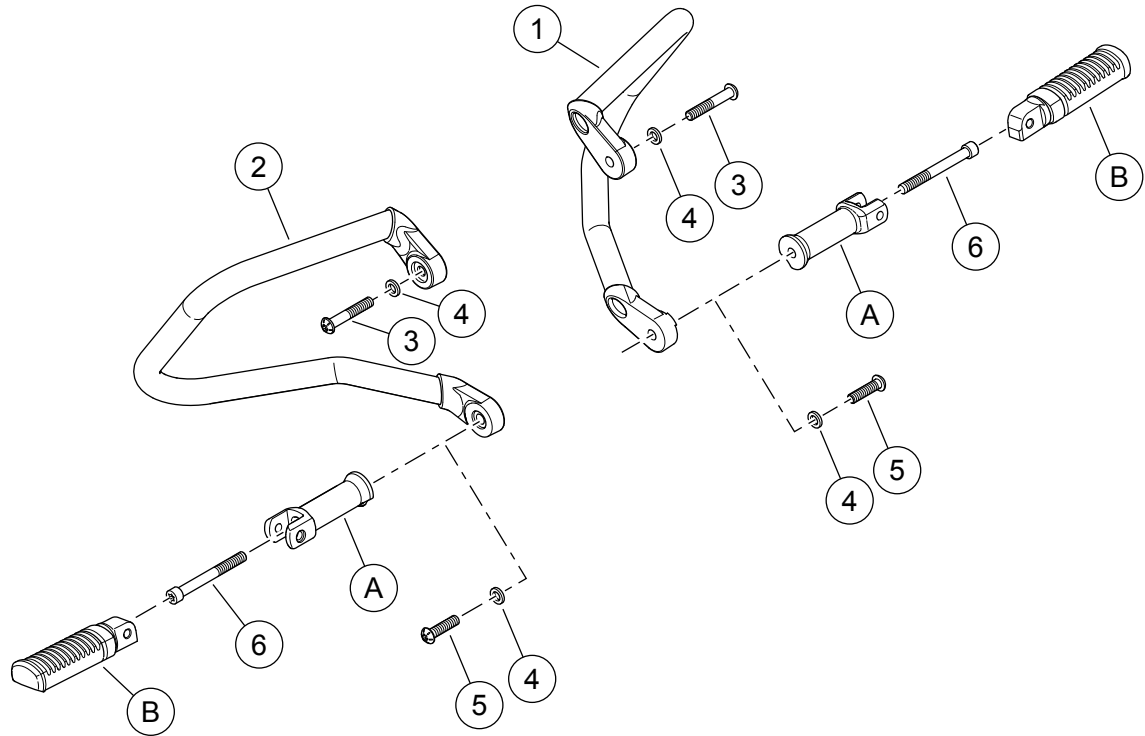

Figure 3. Service Parts: Softail Rear Saddlebag Guard
See Figure 3 and Table 1.
5. See Figure 3. Install screw (3) and washer (4). Finger tighten only.
7. See Figure 3. Determine your model application and follow the applicable installation procedure below: